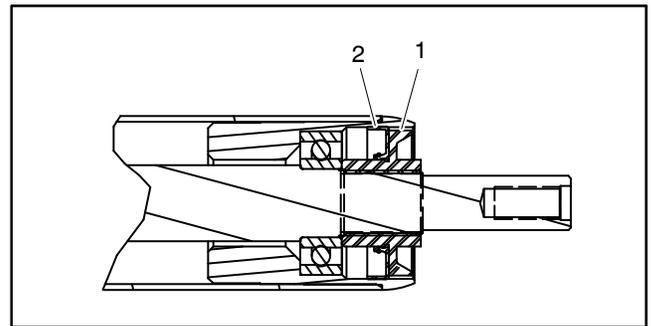

Figure 38
7. Install a nut with seal onto each end of the roller shaft. Tighten nuts until they bottom against bearings (Fig. 38). Remove nuts from roller shaft.